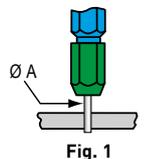

Fig. 1
“GO” - Insert the end (green) of the gauge as shown (Fig. 1).
- "GO" - Insert the end (green) of the gauge as shown (Fig. 1). The gauge must pass freely between the indenter tips.